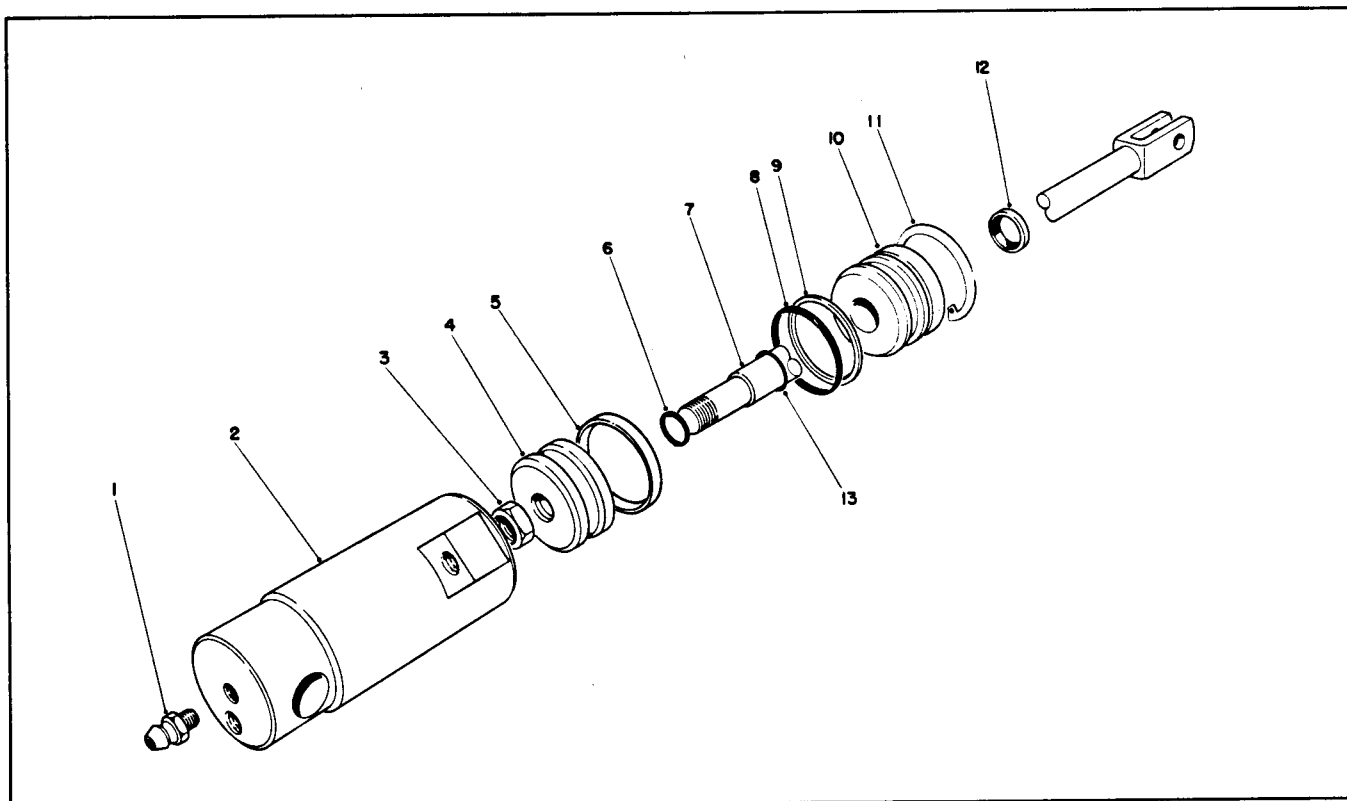

Figure 35
NOTE: The parts shown in the illustration above (Fig. 35) may not be the same as on your machine. Refer to the Parts Catalog (with the correct Model and Serial Number of your machine) for the correct parts illustration.
4. Remove the retaining ring (Fig. 35). Grasp the clevis end of the shaft and use a twisting and pulling motion to carefully extract the piston, shaft, and head from the barrel.